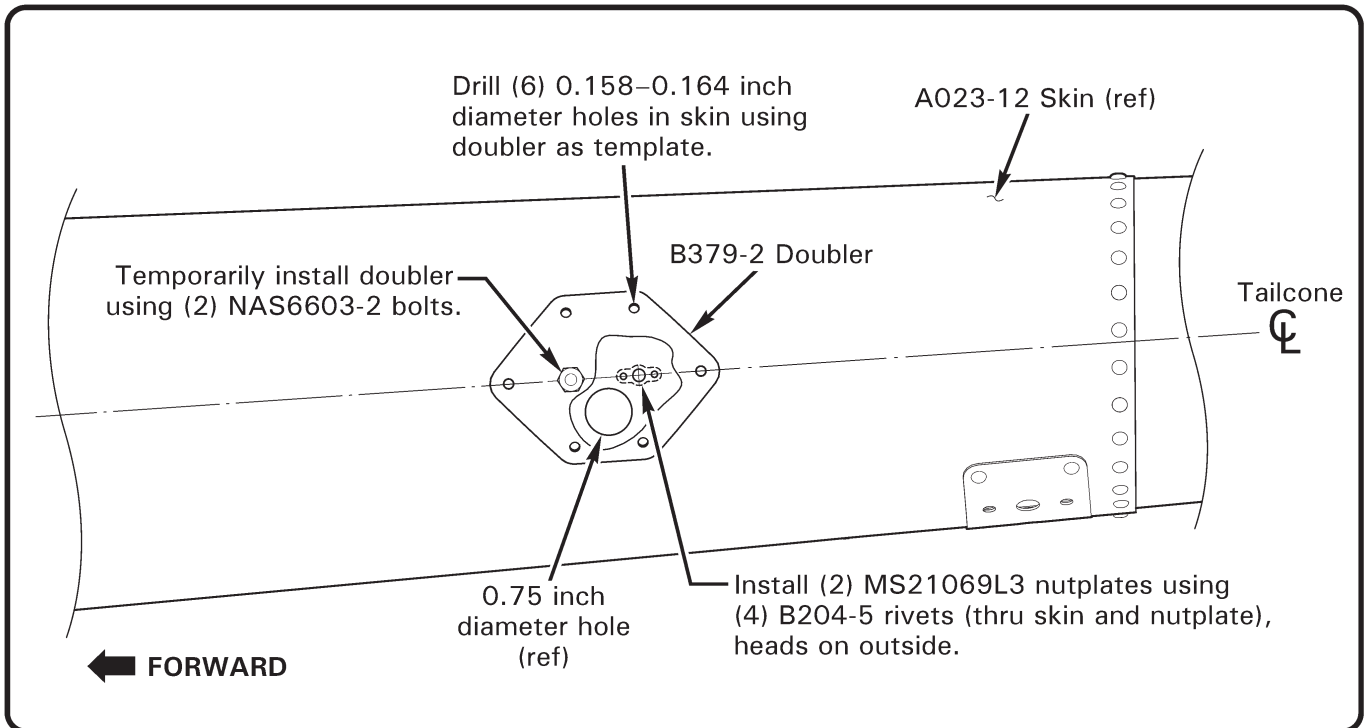

FIGURE 5 Positioning doubler for drilling
9. Refer to Figure 5. Temporarily attach (2) B379-2 doublers to tailcone using (4) NAS6603-2 bolts. Using doublers as templates, progressively match drill (6) 0.158–0.164 inch diameter holes and install clecos thru A023-12 skin. Make a non-permanent mark on doubler to indicate doublers' position relative to tailcone; also mark doubler to indicate left or right side of helicopter. Remove doublers, deburr holes and clean up debris. Strobe light may be removed to access inside tailcone (ref. MM § 24-11). At installer's discretion, alodine and/or prime/paint hole edges as described in NOTE in step 7.